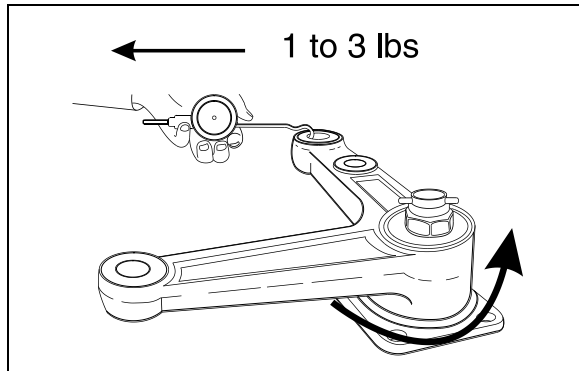

FIGURE 16: BELL CRANK
11. Unscrew nut until bell crank or idler arm starts to turn with the application of 1 to 3 lbs force load as shown on Figure 16.